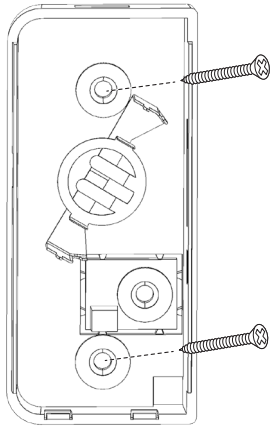

Figure 2
- Place the base of the sensor in the desired location and secure with included screws (see **Figure 2**).
- Drill hole through access hole, if needed (see **Figure 2**).